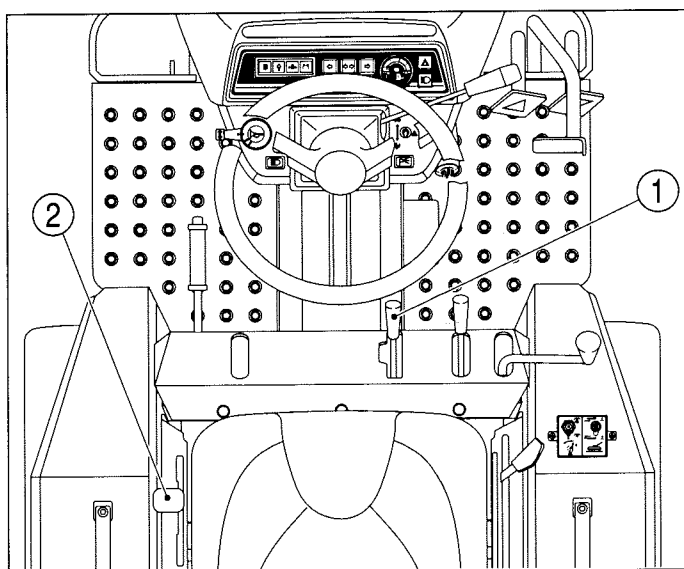

FIG. 26
**NOTE:** *FIG. 26: The PTO switch (Fig. 25) must be used in conjunction with the rear PTO selector control lever (1) or mid-PTO selector control lever (2), when a PTO is used. Refer to Operation Section of this book for complete details.*